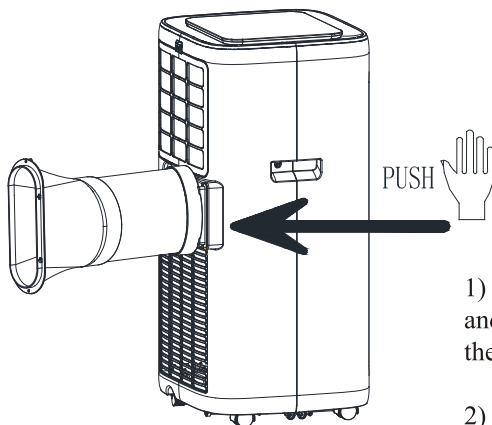

Figure 1
1. Install the heat pipe assembly (as shown in Fig.1)
2) Insert the heat pipe assembly (the end of the exhaust joint) into the back panel vent slot (push to the left) and complete the assembly (as shown in figure 1).